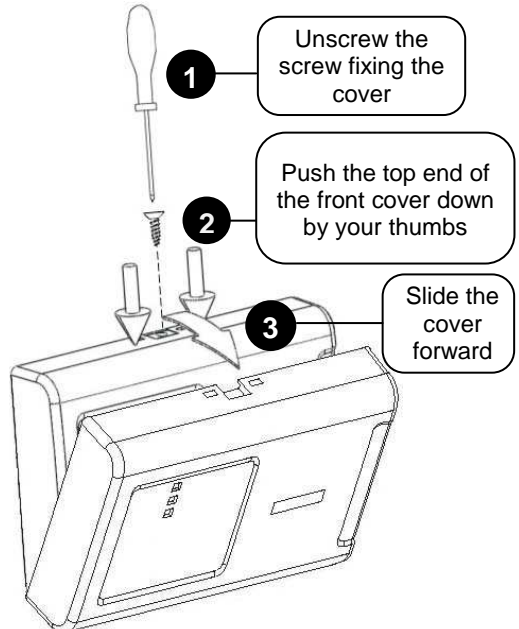

Figure 2. Opening the front cover
3.1.5 Remove the module cover as shown in Figure 2.
3.1.9 Remove the module cover as shown in Figure 2.
3.2.3 Remove the module cover as shown in Figure 2.